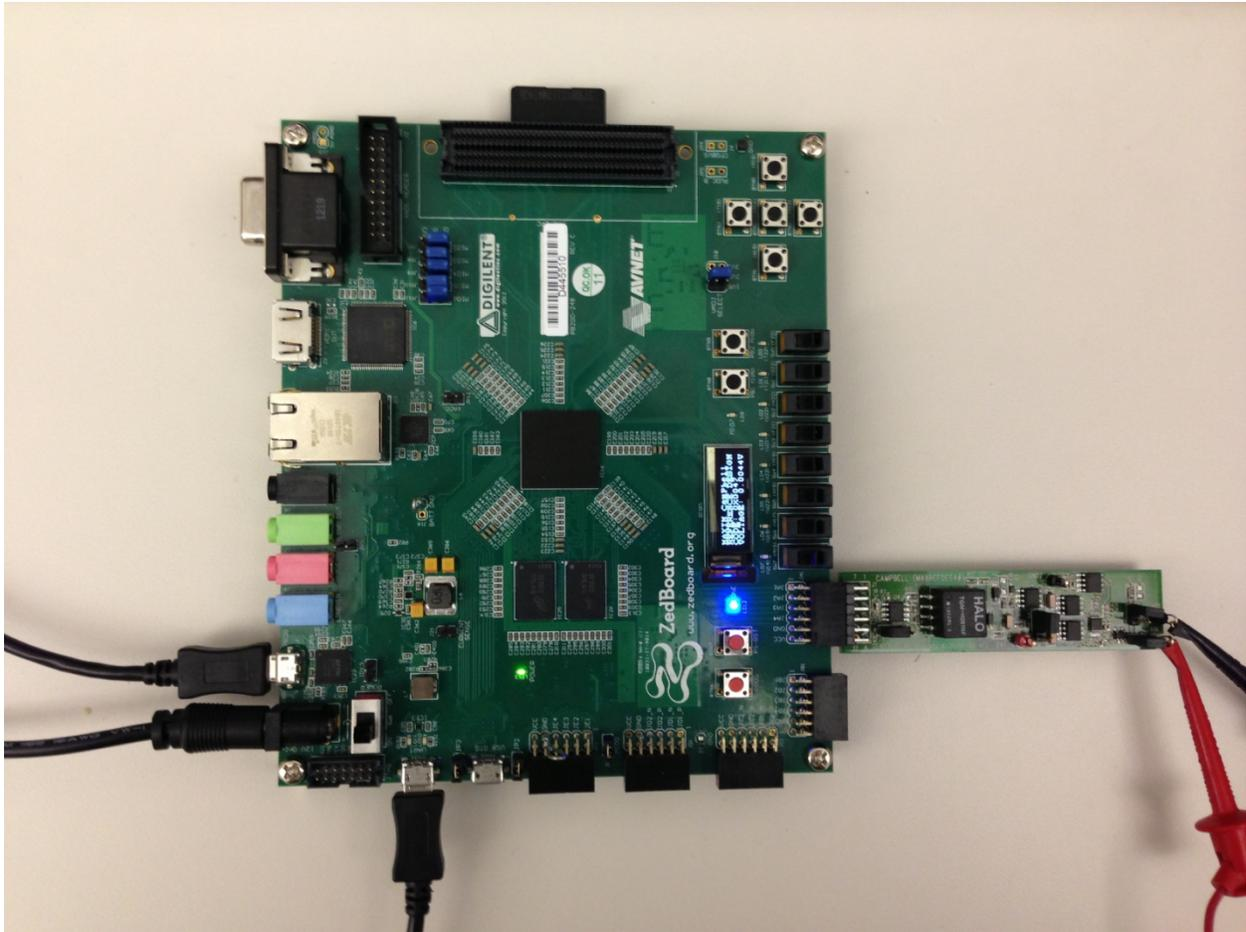
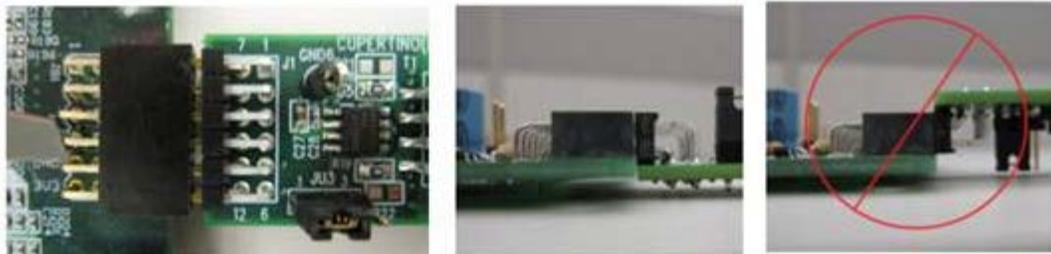

Figure 1. Campbell Board Connected to ZedBoard Kit
Figure 2. Pmod™ Connector Alignment
- 1) Connect the Campbell board to the JA1 port of a ZedBoard as shown in Figure 1. Ensure the connector is aligned as shown in Figure 2.
1. Connect the Campbell board to the JA1 port of a ZedBoard as shown in Figure 1.